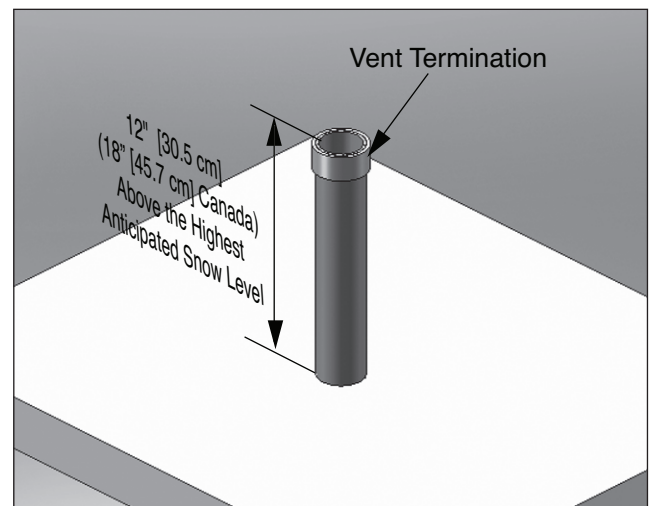

Fig. 14 - Category IV - Vertical Termination of Vent Pipe
3. The vent piping must terminate vertically with a coupling to accept the bird screen and must be located 12 in. [30.5 cm] (18 in. [46 cm] Canada) above the highest anticipated snow level as shown in *Fig. 14 on page 23*
3. Locate the vent pipe penetration to provide clearances as described in *Fig. 14 on page 23*.
3. The vent piping must terminate vertically with a coupling as shown in *Fig. 14 on page 23*.
Do not extend the vent pipe above the roof beyond the dimensions shown in *Fig. 14 on page 23*. Extended exposure of the vent pipe could cause condensate to freeze and block the vent pipe, resulting in substantial property damage, serious injury, or death.